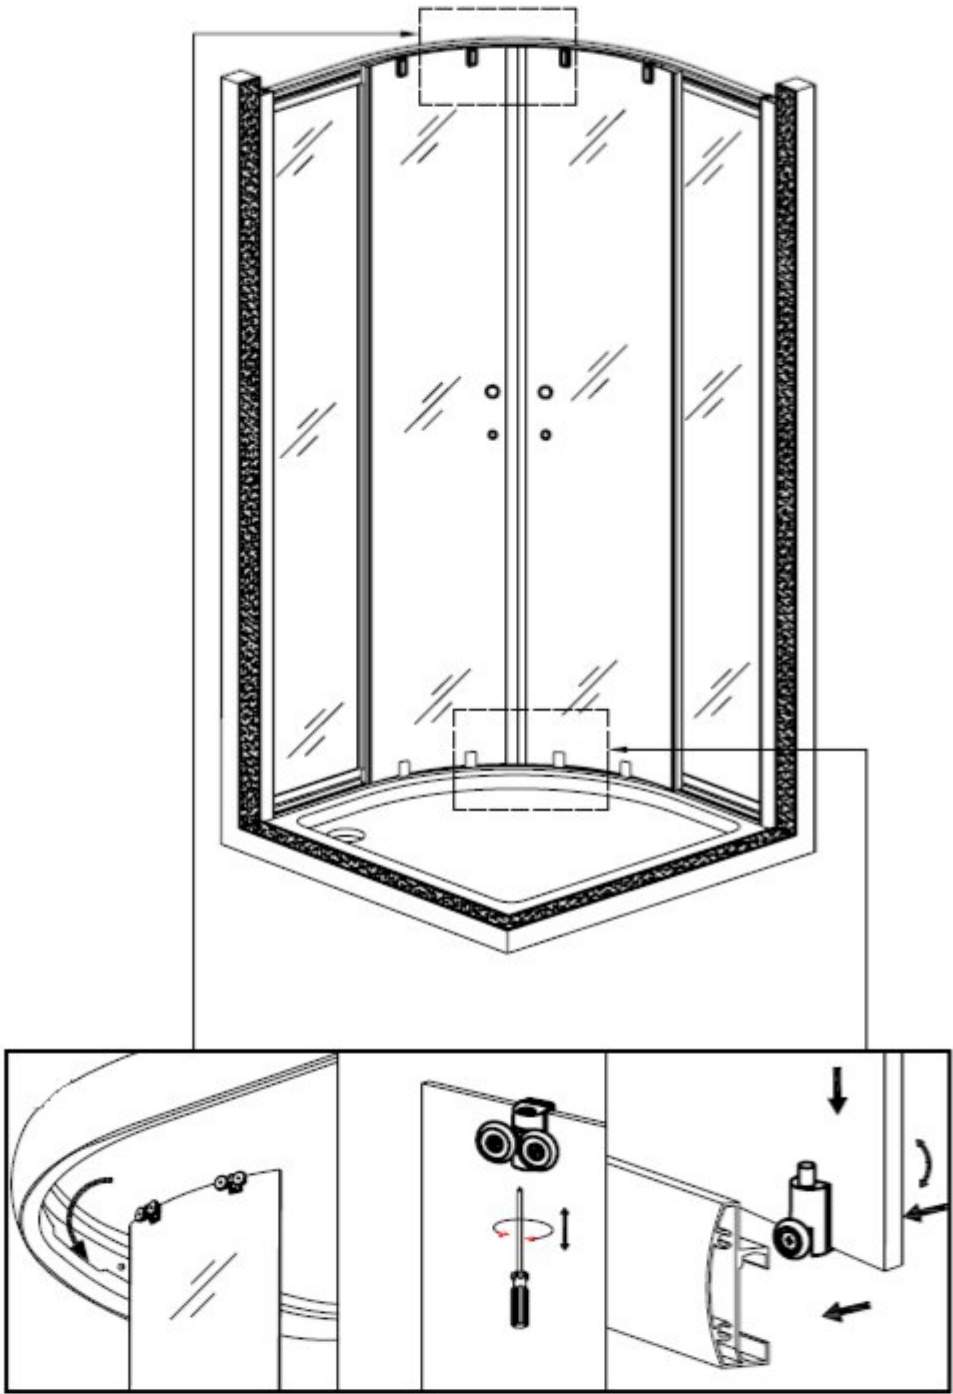

Figure 13
13. Hang the top double roller into the top rail and clip the bottom single roller into the bottom rail, as showed in figure 13.